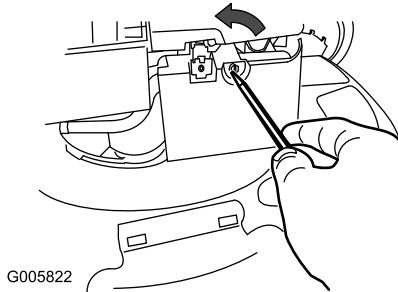

Figure 34
- Use a screw driver to open the air-filter cover (Figure 34).